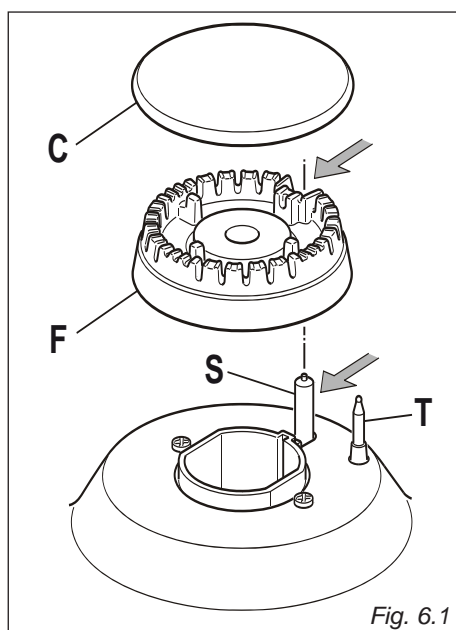

Fig. 6.1
- Check that the probe "T" (figs. 6.1 - 6.3 - 6.4) next to each burner is always clean to ensure correct operation of the safety valves.
- Check that the electrode "S" (figs. 6.1 - 6.3 - 6.4) next to each burner is always clean to ensure trouble-free sparking.
It is very important to check that the burner flame spreader "F" and the cap "C" have been correctly positioned (see figs. 6.1 and 6.2). Failure to do so can cause serious problems.